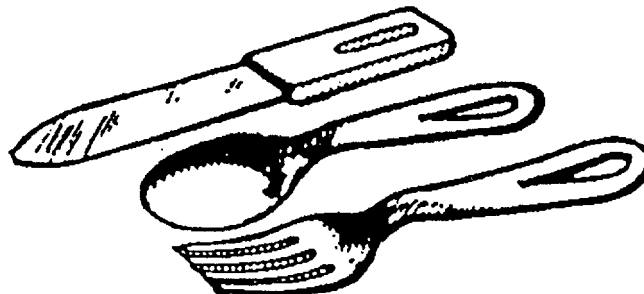

Figure 2-57. Mess Kit, Knife, Fork, and Spoon
- ai. Mess Kit Knife, Fork and Spoon. The mess kit knife, fork and spoon (See Figure 2-57) may be included in your survival kit.